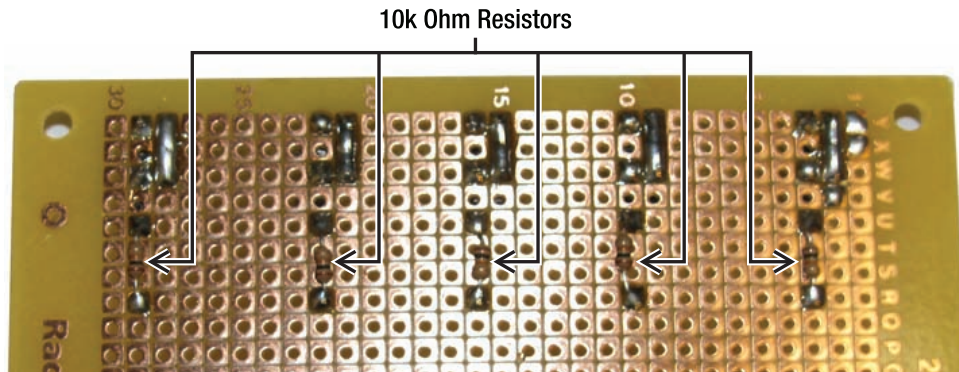

Figure 4-11. Install the (5) 10k ohm resistors from the emitter pin of each photo-transistor to a common Ground.
4. Next add 10k pull-down resistors from the photo-transistor (Detector) output pin to Ground (see Figure 4-11). By placing the pull-down resistors on each sensor output pin, we are ensuring that the Analog inputs of the Arduino will be defaulted to a value of 0, unless there is IR light activating the photo-transistor. We do this because the IR photo-transistor acts as a simple switch, enabling +5v to pass through it when turned on. When the switch is in the off state, we need to use a pull-down resistor to give the Arduino analog Input a default value (GND) so it is not left “floating.”